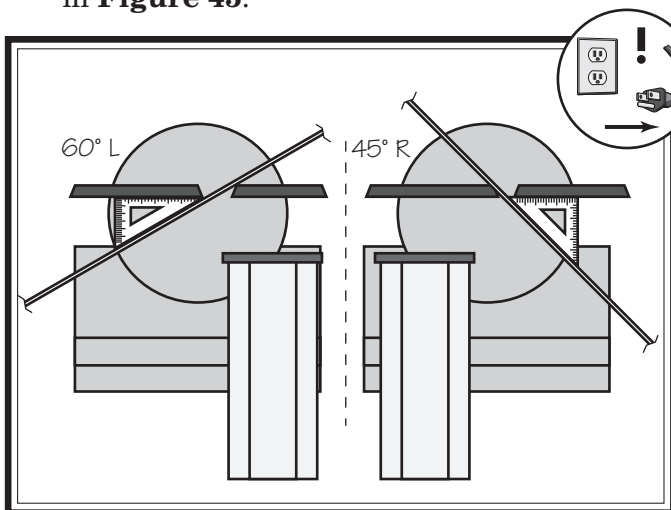

Figure 45. 60° left and 45° right stop adjustment.
- Repeat this procedure for the 60° left and 45° right stops using a 45° square and a 30°/60° triangle (or an adjustable square), as shown in **Figure 45**.